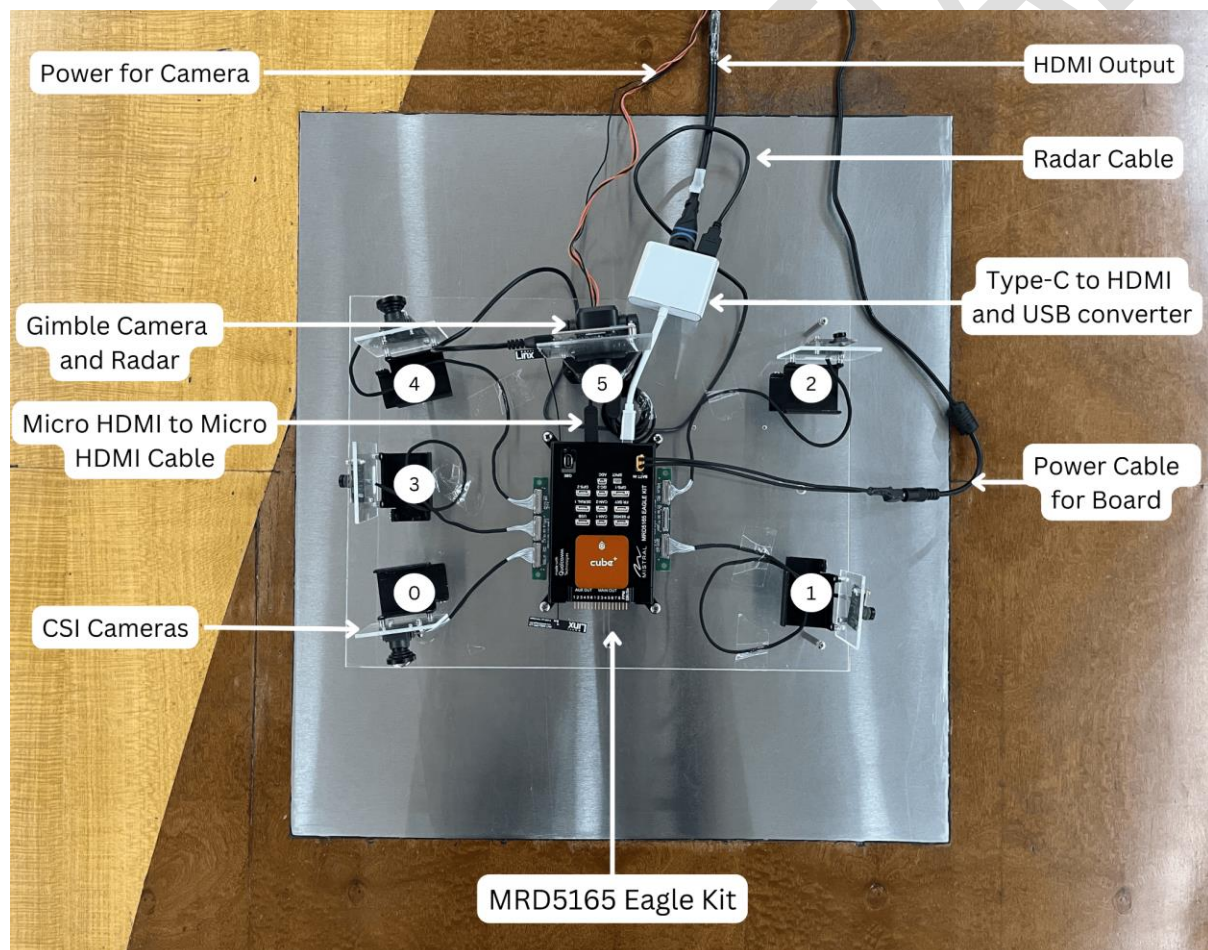

Figure 1: MRD5165 Eagle kit with Radar and Gimble Camera
- Refer Figure 1 to know camera ID.
In this page, the “Device” can be selected from the drop-down options like HDMI, IMX, OV or ALL\_CAM. While selecting ALL\_CAM, the video stream would provide a tiled mosaic of 3-camera (Camera ID 0, 1 & 2 in Figure 1) connected to the platform.